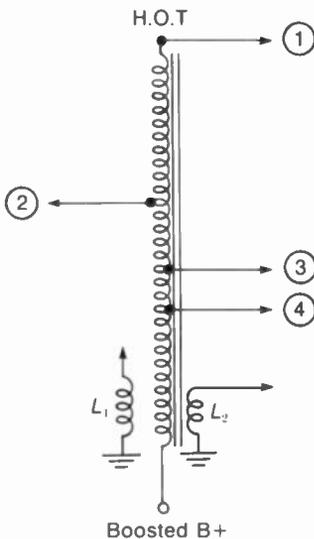

FIGURE 22-36 FOR PROBLEM 6.
6. For the horizontal output transformer in Fig. 22-36 below, give the functions for the taps at terminals 1, 2, 3, and 4, with the auxiliary windings  $L_1$  and  $L_2$ .